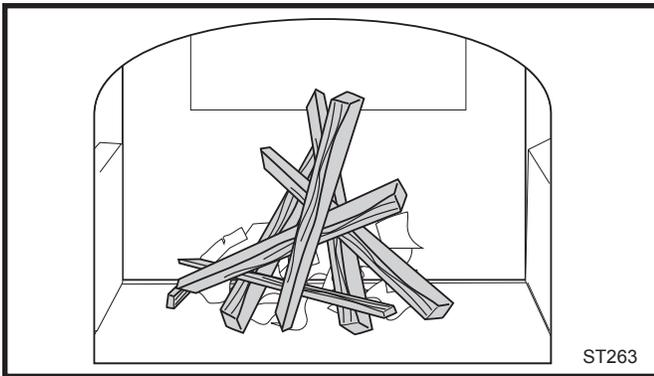

Fig. 37 Start the fire with newspaper and dry kindling, and repeat the procedure as often as necessary if the initial attempt is unsuccessful.
2. Place several sheets of crumpled newspaper in the stove. Place six or eight pieces of dry kindling split to a finger-width size on the paper. On the kindling, lay two or three larger sticks of split dry wood approximately 1-2" (25-51 mm) in diameter. (Fig. 37)